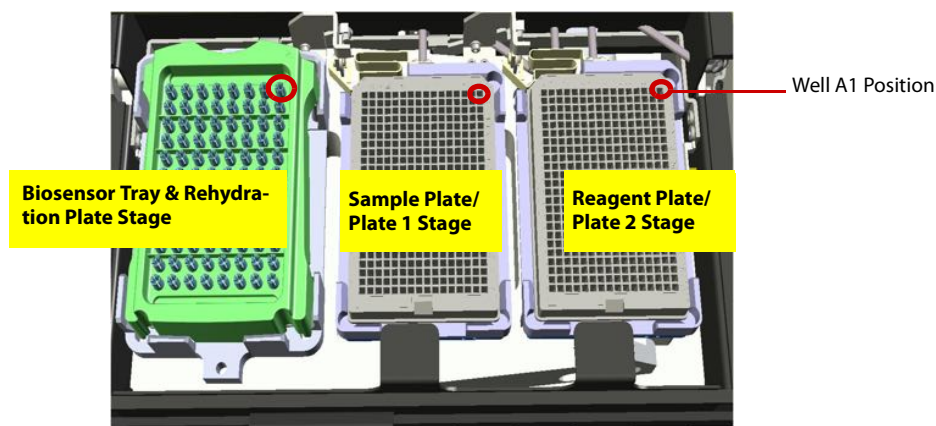

Figure 10-87: Octet Instrument Stage Platform
2. Place the biosensor tray, sample plate, and reagent plate on the appropriate stage so that well A1 is located at the upper right corner (see Figure 10-87):